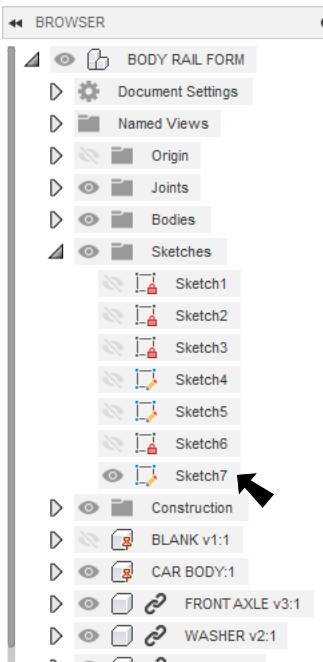

Fig. 3
Step 5. Expand **Sketches** folder and Show  **Sketch7** (sketch created in Render Chapter), Fig. 3.